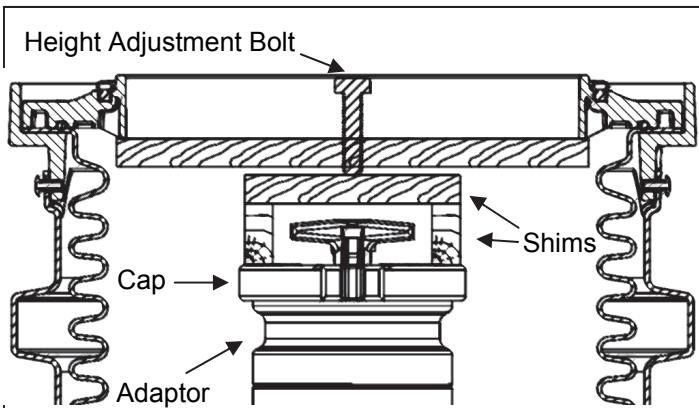

Figure 4
Step 6: (See Figures 4 & 8)
If necessary, the height of the spill container can be adjusted by $\pm 1.5"$ (3.8cm). If it is necessary to increase height, install adjusting system (sold separately for 5 gallon models, part number H12267) beneath tabs on mounting ring. See Figure 4 for standard cover models and Figure 8 for sealable cover models. Add shims as needed and adjust with screw (shims must be cut to size for sealable cover models).